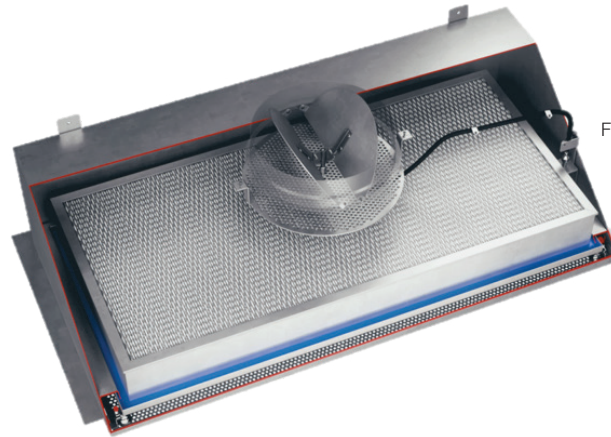

Fig: 25 Split Butterfly Damper
The Split Butterfly Damper is controlled via rotary flex cable from the room side and is adjustable from fully open to fully closed position with one (1) full revolution using a Phillips head screwdriver (see Fig. 25).